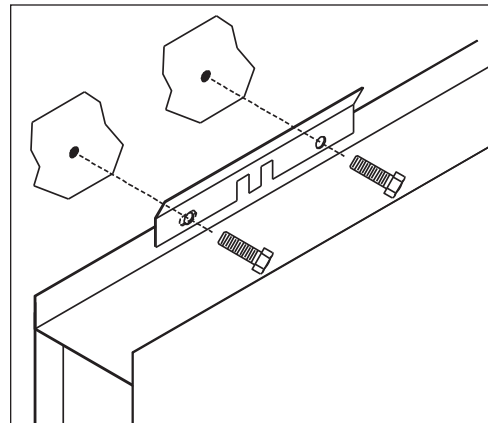

Figure 7: Wall Mounting with Bracket
3. Mounting brackets must be used inside the top cabinet channel as shown in **Figure 7**.